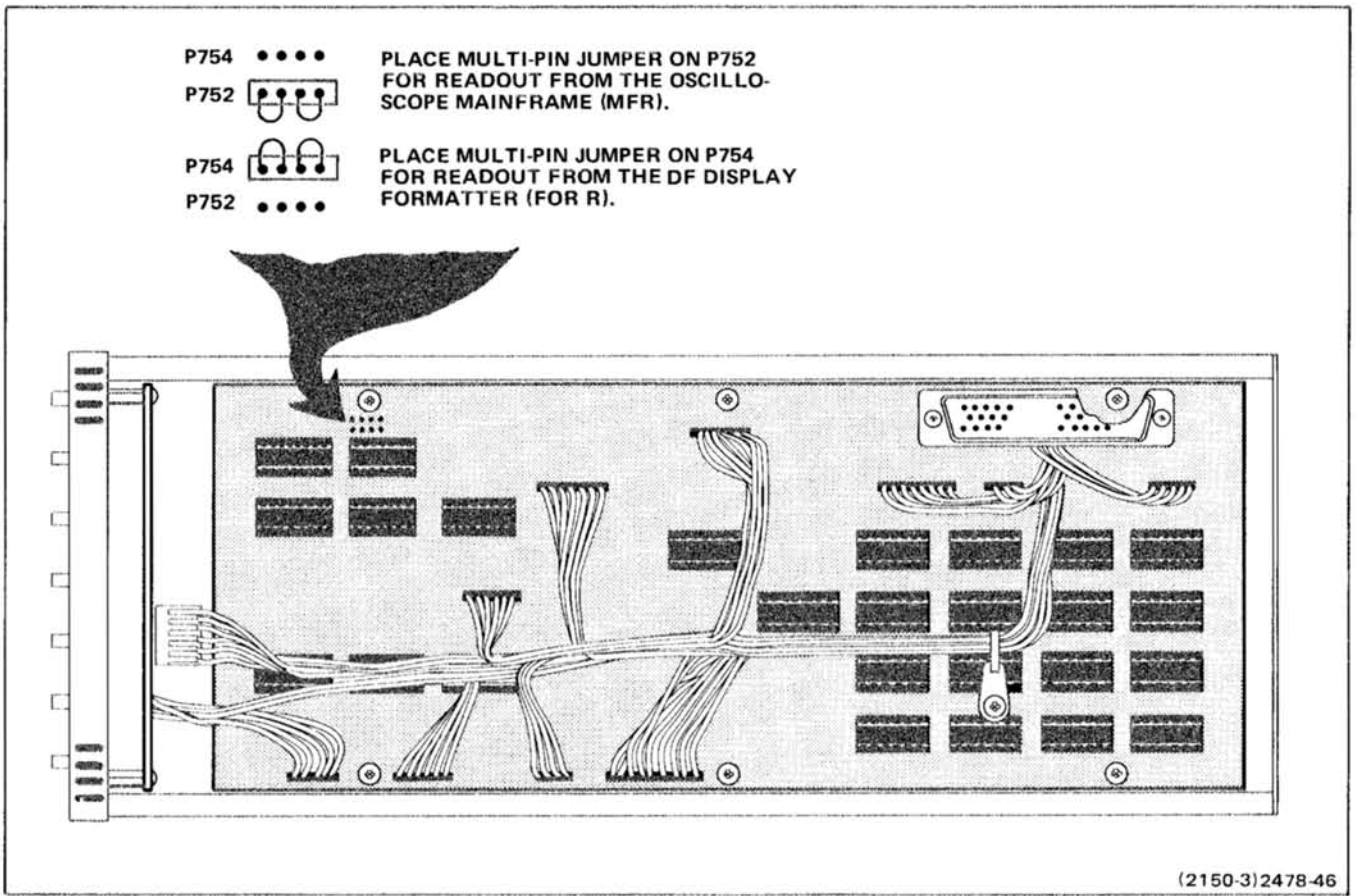

Figure 6-3. Location of readout source multi-pin jumper.
- a. Connect the DF Readout Source multi-pin jumper (internal) to display the formatter readout (FOR R). Refer to Figure 6-3.
g. Connect the DF Readout Source multi-pin jumper (internal) to display mainframe readout (MFR). Refer to Figure 6-3.
a. Connect the DF Readout Source multi-pin jumper (internal) to display the mainframe readout (MFR). Refer to Figure 6-3.
b. Set the System Test Fixture ADDRESS switches to 0098, and DATA switch number 0 to HI (1).
d. Set the System Test Fixture ADDRESS switches to 00A8. Set DATA switches: number 3 to HI (1), number 1 to HI (1), and number 0 to LO (0).
- a. Connect the DF Readout Source multi-pin jumper (internal) to display the mainframe readout (MFR). Refer to Figure 6-3.
- b. Set the System Test Fixture ADDRESS switches to 0098, and DATA switch number 0 to HI (1).
- d. Set the System Test Fixture ADDRESS switches to 00A8. Set the DATA switches: number 3 to HI (1), number 1 to HI (1), and number 0 to LO (0).